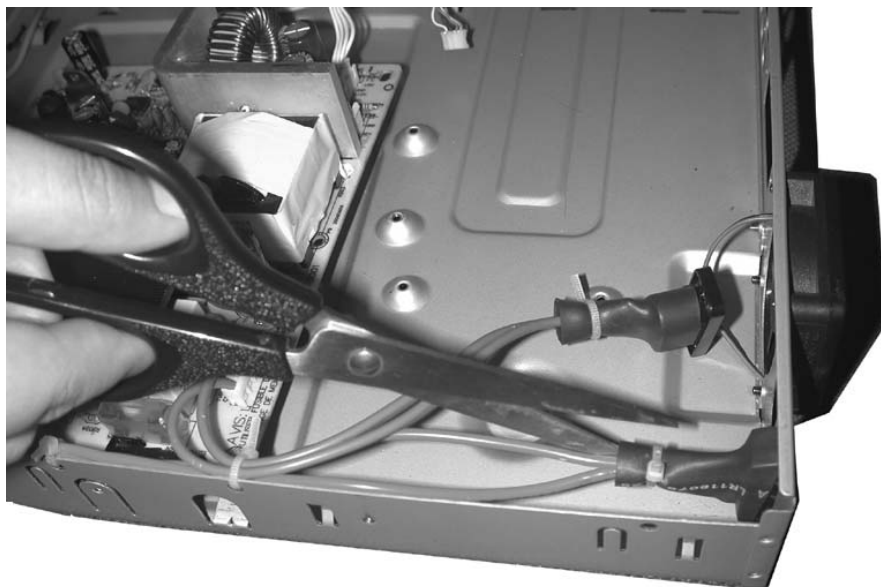

Figure 9
- 1) Cut the rubber bushing use scissors, then use brand iron solder between AC socket and two cables as shown in figure 9